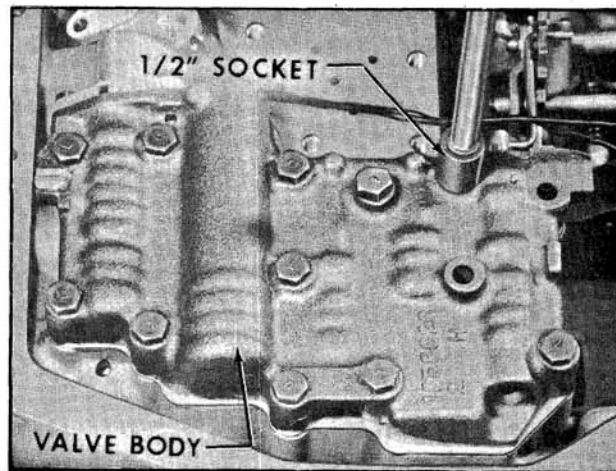

Fig. 6-355 Removing Valve Body
7. Remove 11 valve body to case bolts. Do not remove valve body. (Fig. 6-355)